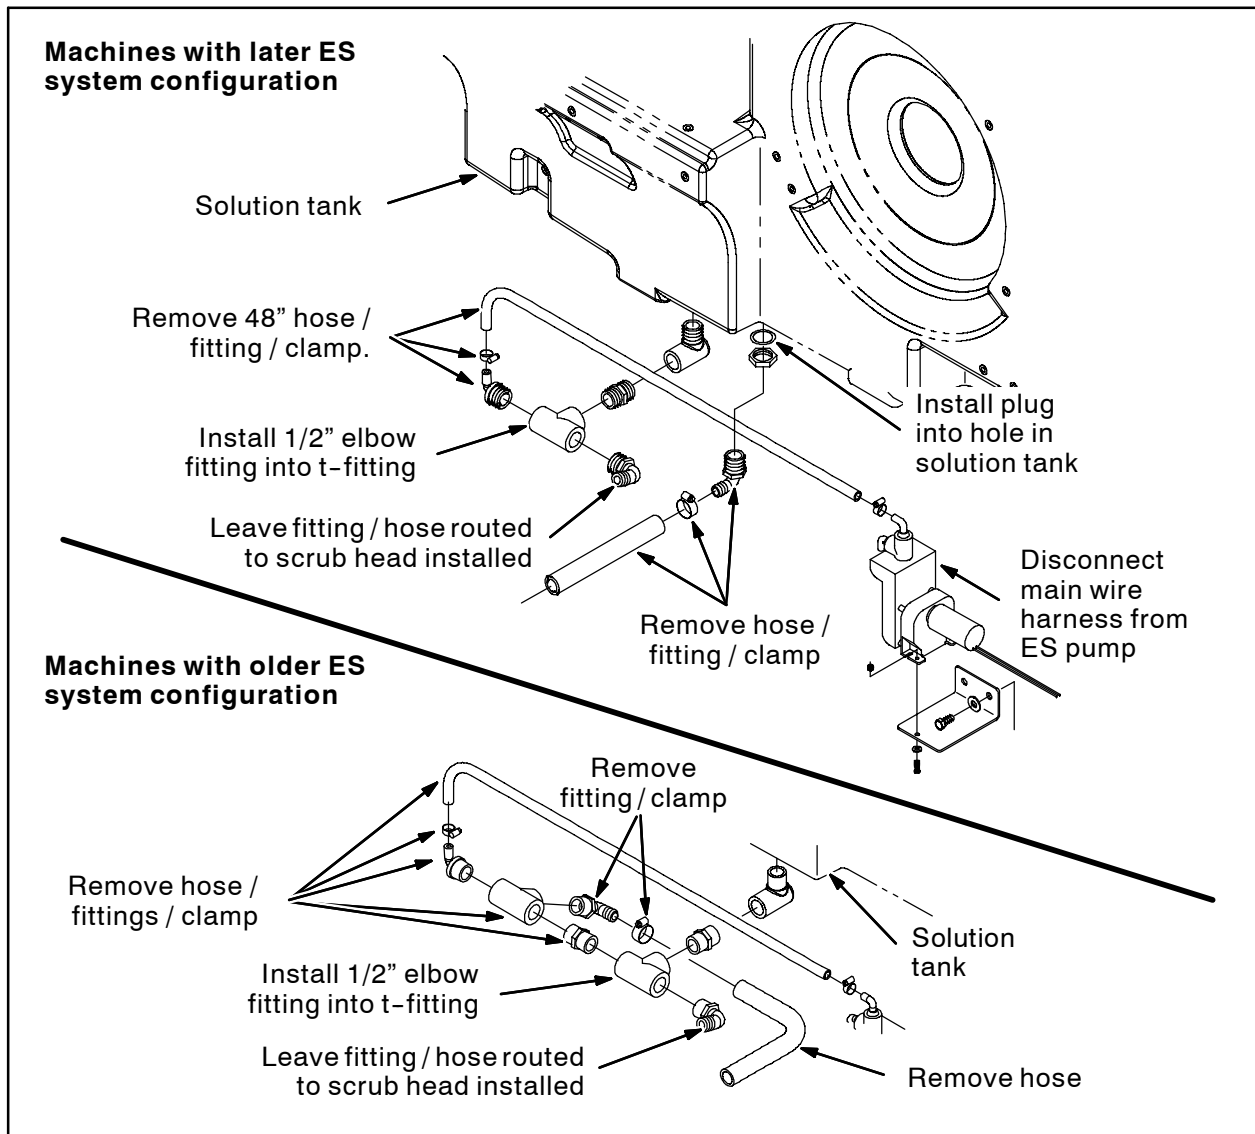

FIG. 5
9. Disconnect ES system hoses / fittings from the solution tank and ES pump. Discard removed hoses / fittings. Refer to Fig. 5.
10. Cut all remaining hoses from the ES pump and remove the hoses from the machine. Discard the removed hoses. Refer to Fig. 5.
12. Install a 1/2" elbow fitting onto the t-fitting located on the bottom of the solution tank. Refer to Fig. 5.
13. Use a hose clamp to connect the 48" PVC hose to the new elbow fitting installed in the previous step. Refer to Fig. 5.